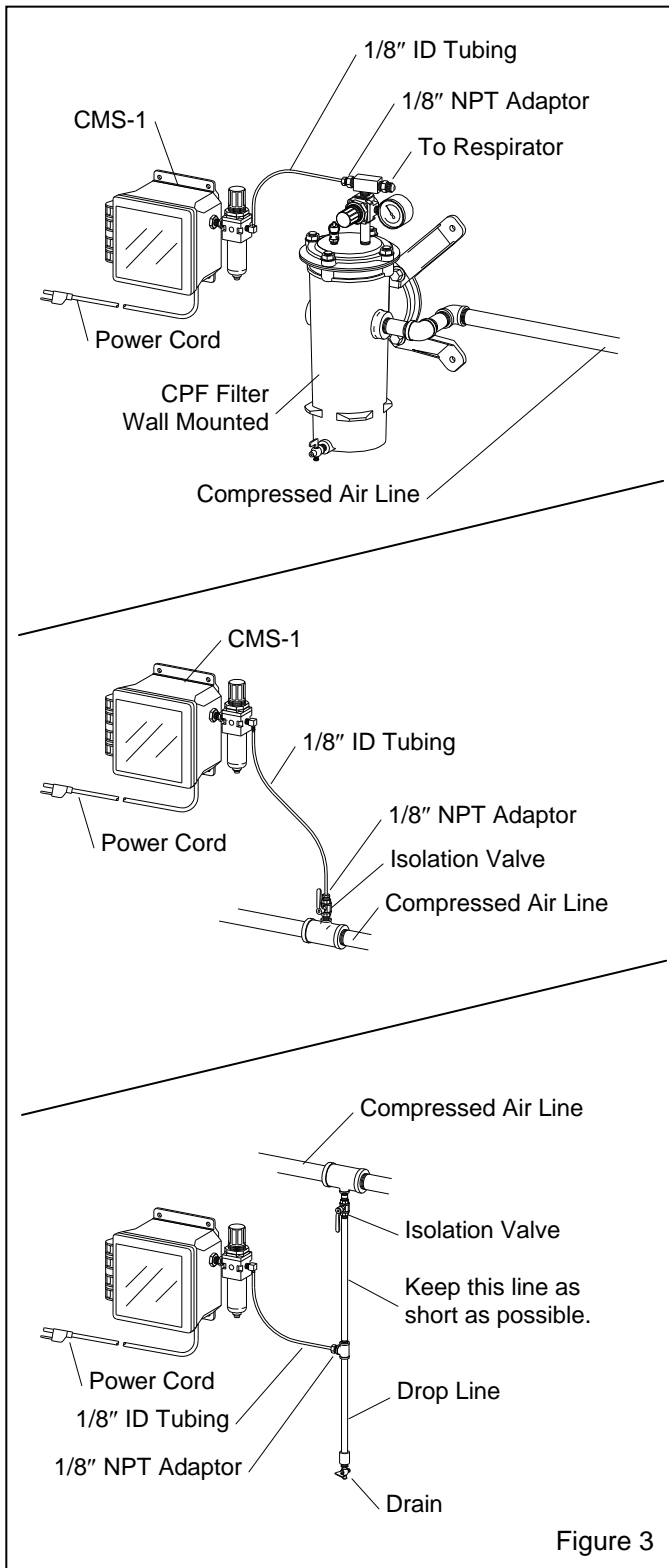

Figure 3
2.3.2.3 Place a tee in the air supply line, and use a bushing or other adaptor, to connect the 1/8" NPT tube adaptor supplied. Install an isolation valve at the source to enable depressurization to remove the monitor. Typical set-ups are shown in Figure 3.